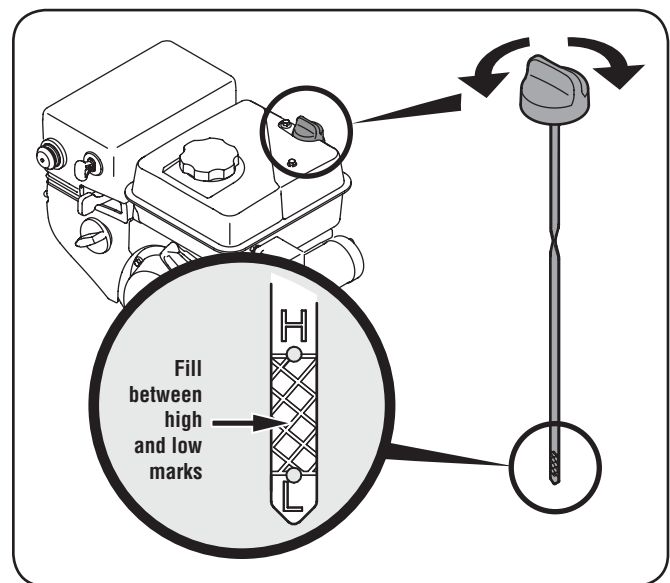

Figure 3-2
- Keep oil level between "H" and "L" marks on dipstick. See Fig. 3-2.
1. Remove the oil filler cap/dipstick and wipe the dipstick clean. See Fig. 3-2.
3. Remove the oil filler cap/dipstick. If the level is low, slowly add oil until oil level registers between high (H) and low (L), Fig. 3-2.
4. Loosen and remove the oil fill cap dipstick from the oil filler tube. Note the oil level, if oil reading on the dipstick is below the “L” mark, slowly add oil to reach the “H” level. See Fig. 3-2 or 3-3, whichever is applicable.